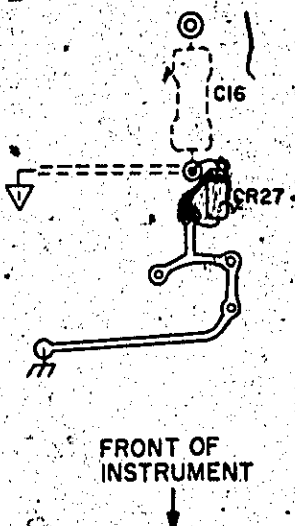

Figure 1. Section of Circuit Side of A2 Board.
2. Add CR24 (-hp- Part No. 1902-3002), between the emitter of A2Q2 (signal common) and instrument common. Mount CR24 directly on the circuit side of the A2 board as shown in Figure 1.